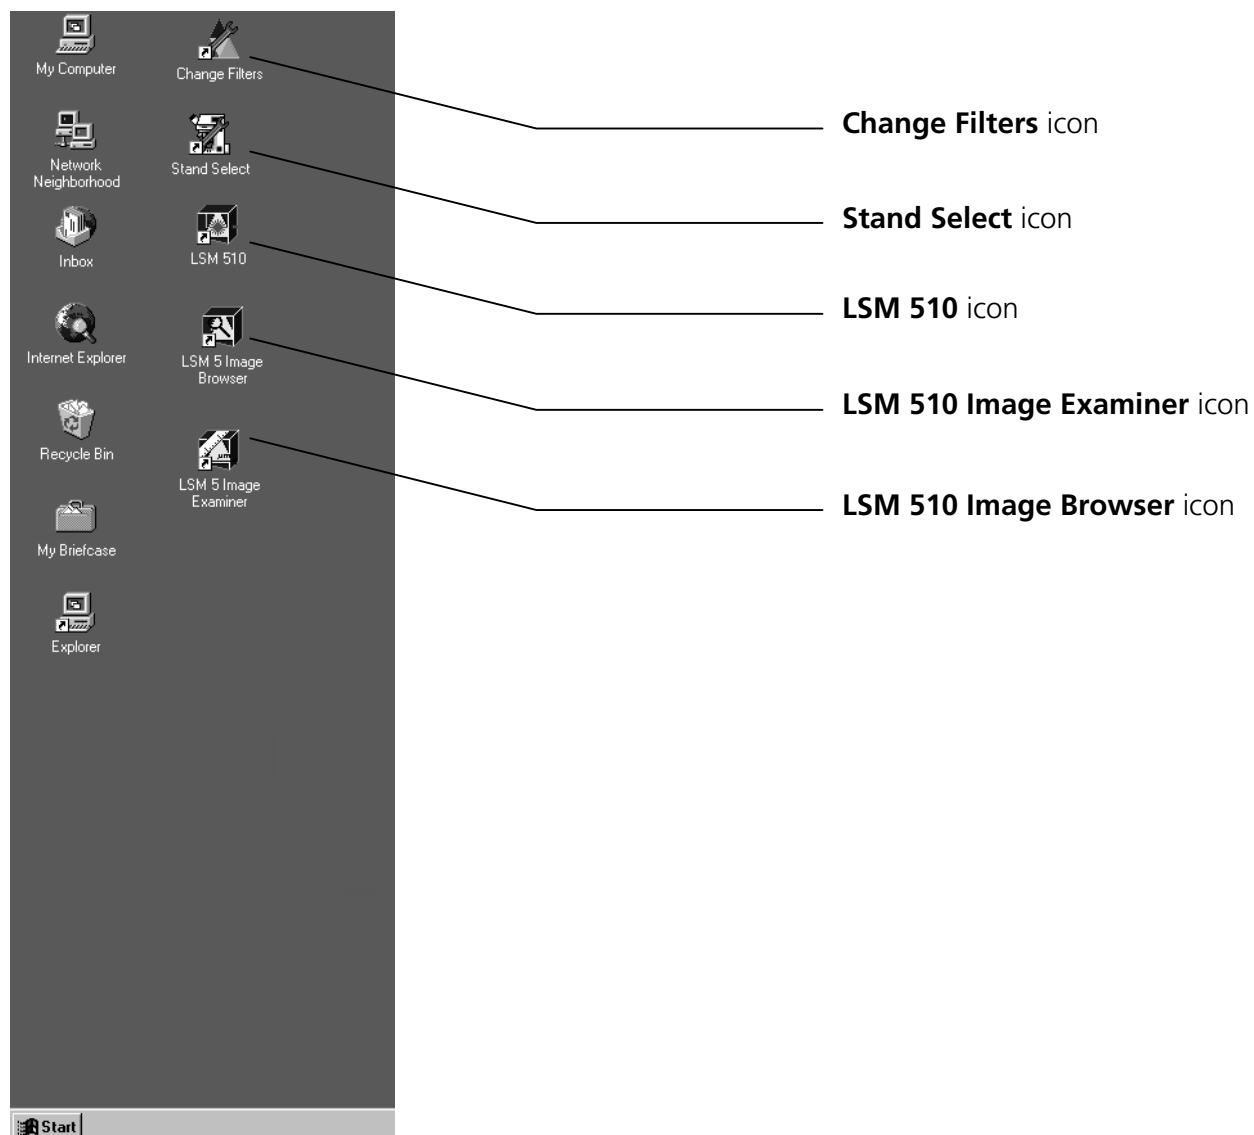

Fig. 5-5 WINDOWS NT operating system desktop
- Double-click on the **LSM 510** icon on the desktop of WINDOWS to start the LSM 5 software program (see Fig. 5-5).